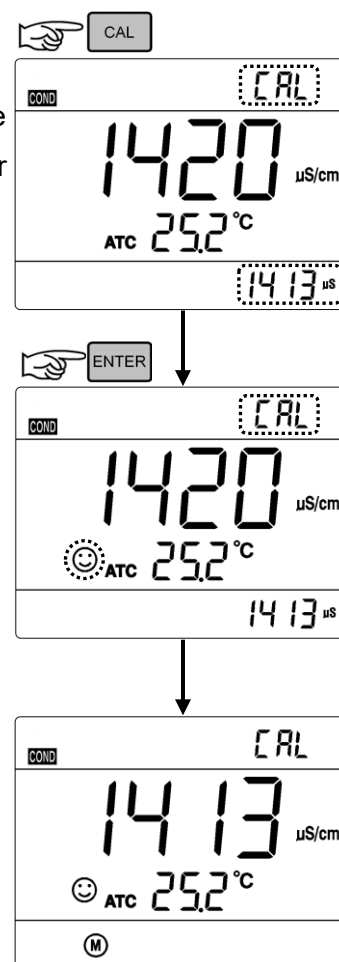

Figure-12
7.4.3 When the meter locks 1413 μS , stable icon  will display on LCD. Press  key to complete calibration. End will appear and the meter will return to measuring mode and  is displayed on bottom left of the LCD screen. See figure-12.